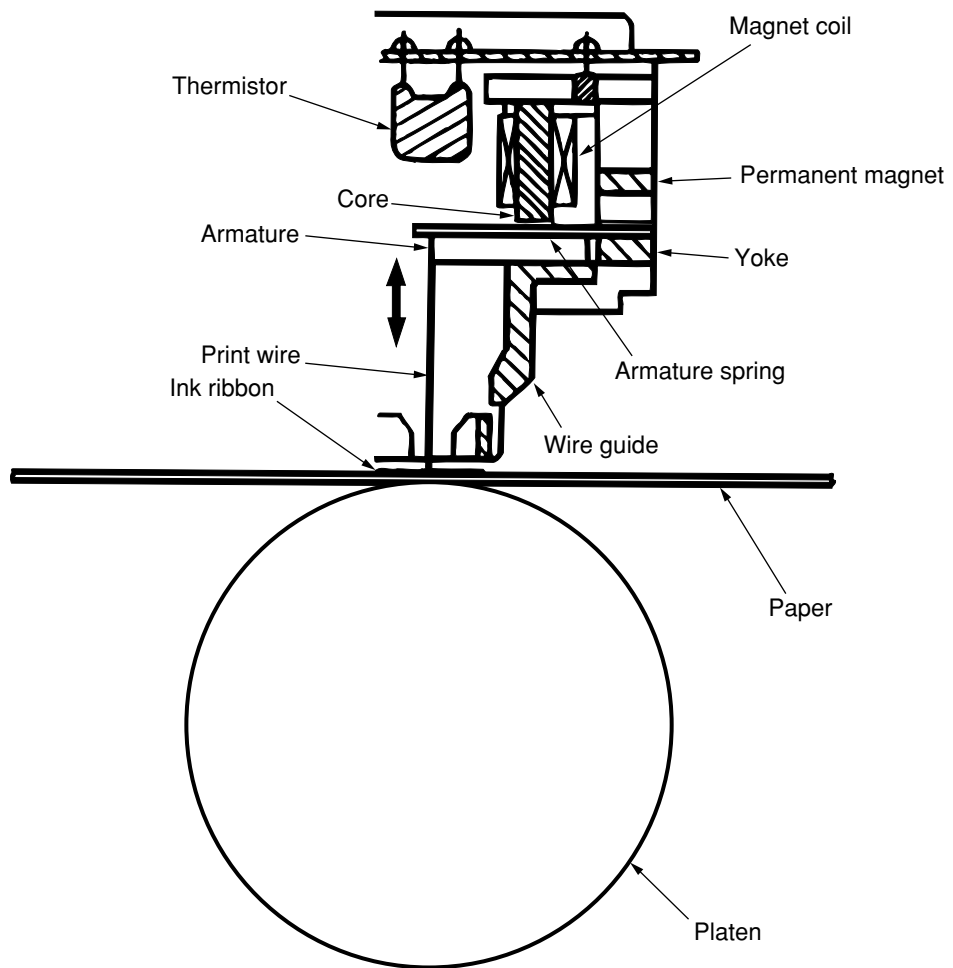

Figure 12-3
(1) Print Head mechanism (See Figure 12-3.)